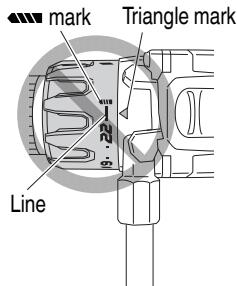

Fig. 17
- Do not use with the clutch dial set at the line between the number "22" and the drill mark "■■■". Doing so may cause damage (See Fig. 17).